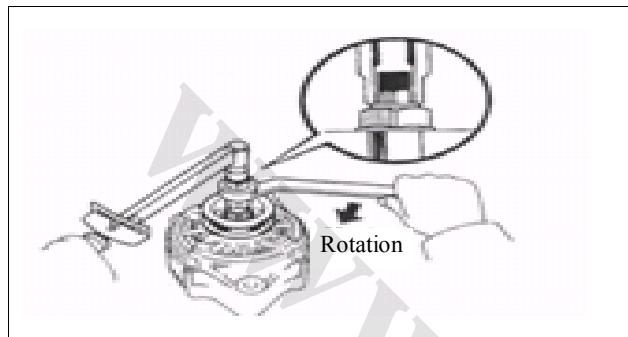

Figure 435
- Use a 29-mm box wrench and a pressing device to press in the rectifier end bracket (see Fig. 435).